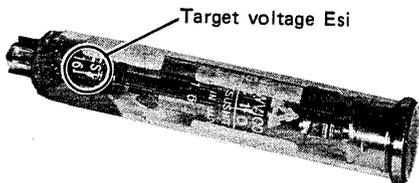

Fig. 3
2. Before inserting the Newwicon, note the value of target voltage E_{sj} stamped on the Newwicon neck (Fig. 3). The value of E_{sj} will be used for the target voltage adjustment.